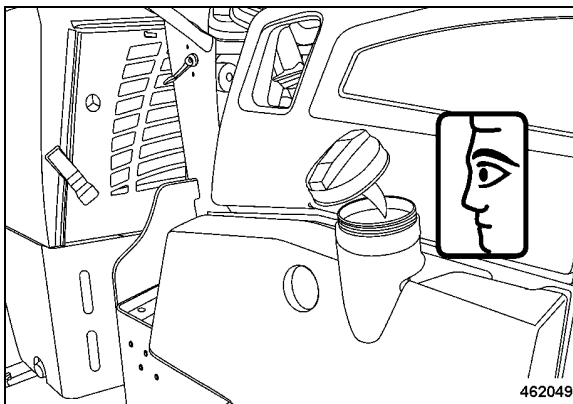

Fig. 121
- Open the lid (Fig. 121) on the tank, fill up with emulsion as necessary and close the lid again.